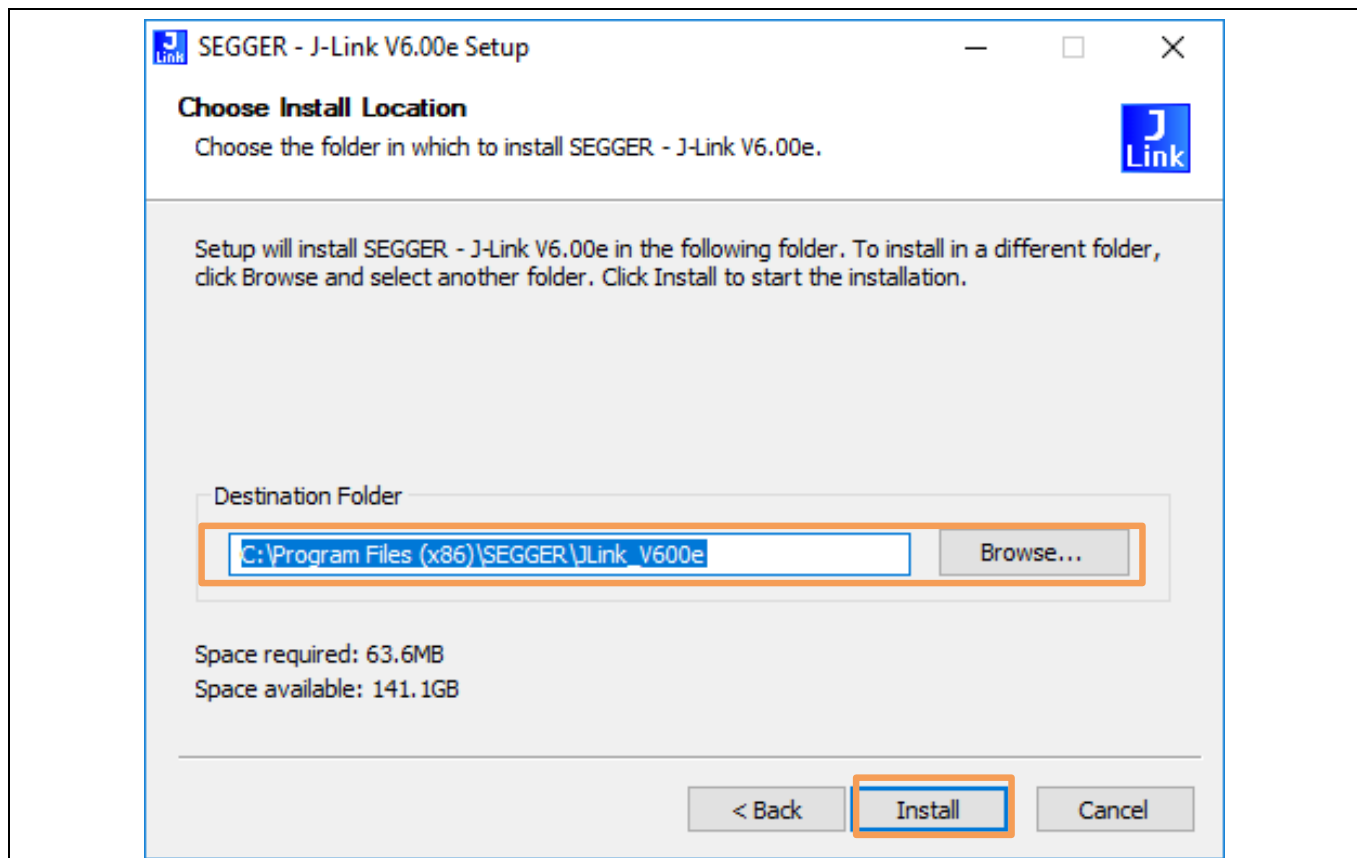

Figure 30 SEGGER JLINK Drivers – Confirm Installation
- Then the installer will prompt for the installation folder. Accept the default one or use another directory by selecting the **“Browse”** button as shown in orange color box of Figure 30. Click **“Next”** button to continue with the installation.